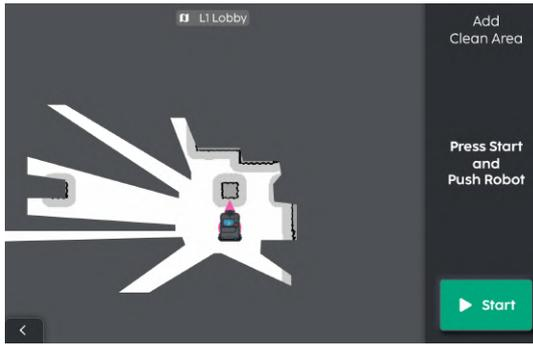

FIGURE 4-17
14. Push the robot to the area where the cleaning will take place, press 'Start' to begin creating the cleaning area (**Fig. 4-17**).